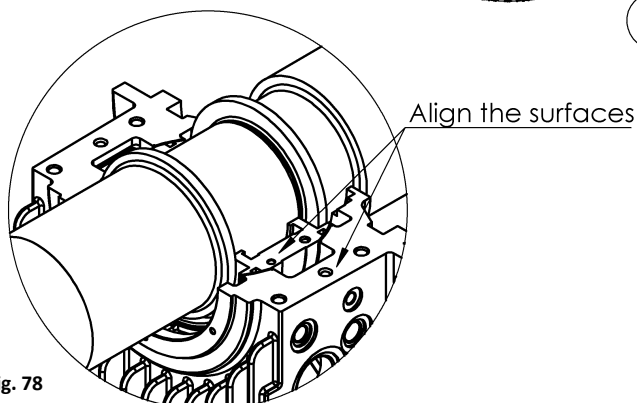

Fig. 78
- Align shell and housing split surfaces (Fig. 78). Now it is possible to support the shaft in the liner bore.